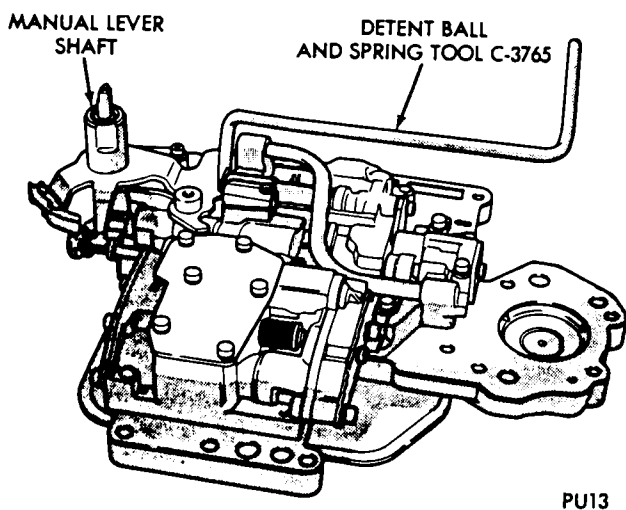

Fig. 8—Installing Detent Ball and Spring
(1) Install throttle valve, throttle valve spring, kick-down valve, and kickdown detent sleeve.
(2) Slide manual valve into its bore.
(3) Install throttle lever and shaft on valve body. Insert detent spring and ball in its bore in valve body. Depress ball and spring with Tool C-3765 (Fig. 8) or similar tool and slide manual lever over throttle shaft so that it engages manual valve and detent ball. Install seal, retaining washer, and E-clip on throttle shaft.